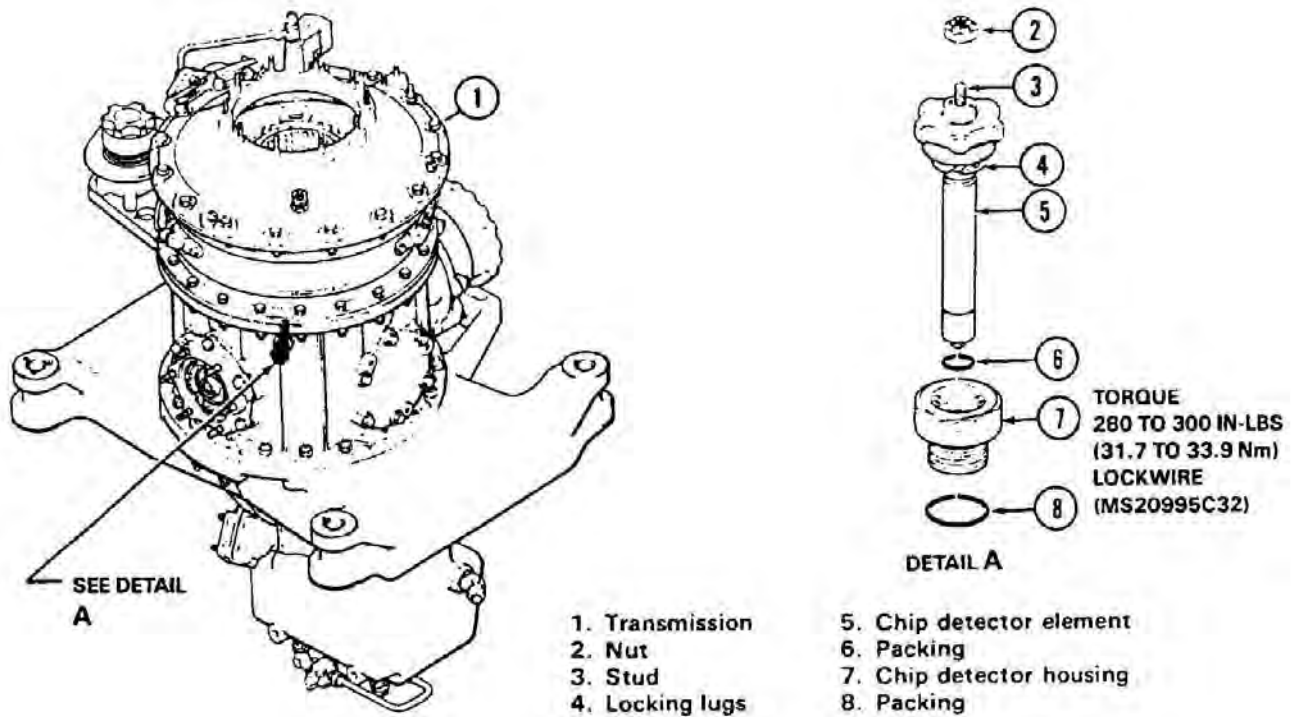

Figure 63-18. Main Input Quill Electric Chip Detector
The main input gear quill electric chip detector (Figure 63-18) is installed to detect metal particles in the transmission oil originating from the main input gear quill.
63.5.5.1.1 Remove nut (2, Figure 63-18) and disconnect wire from stud.
63.5.5.3.1 Inspect chip detector (5, Figure 63-18) for presence of metal particles. If any particles are found, refer to paragraph 63.1.2 for required action.
63.5.5.4.1 Coat new packing (6 and 8, Figure 63-18) with transmission oil (Chapter 12). Install packing (8) on housing (7) and packing (6) on chip detector (5).